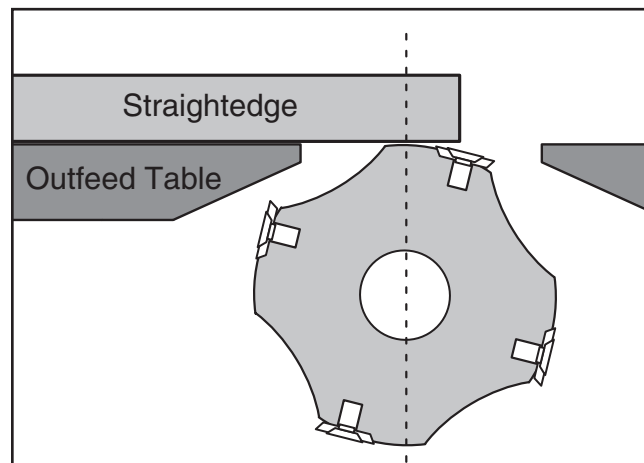

Figure 10. Checking cutterhead parallelism.
21. Using straightedge and feeler gauge set, inspect cutterhead parallelism with outfeed table as shown in **Figure 10**. With straightedge in position, raise or lower outfeed table until cutterhead body (not carbide insert) just touches straightedge.